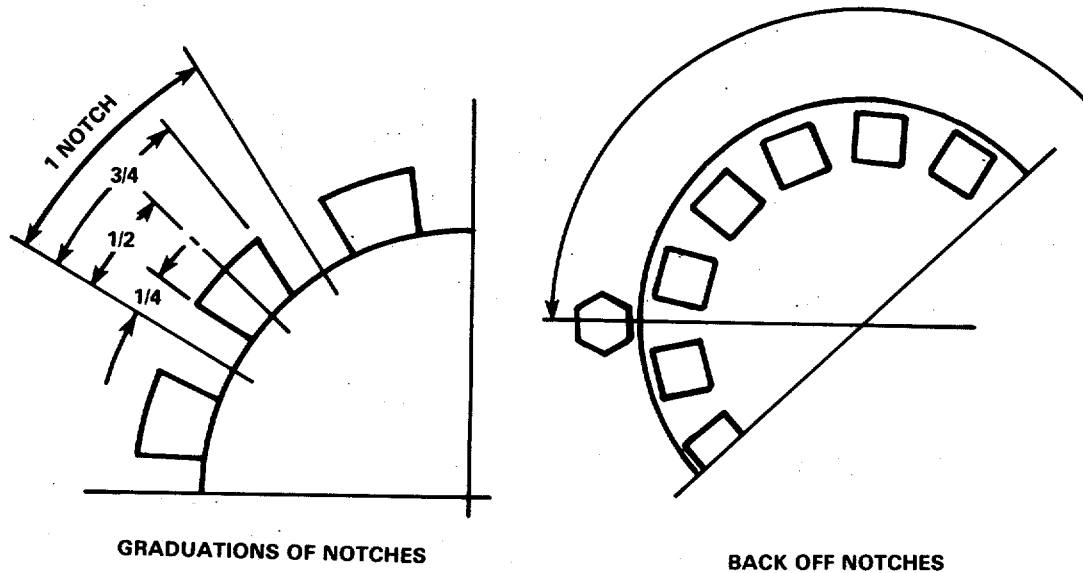

FIGURE 3-62. *Adjusting Retainer Nut.*
- (1) Tighten the retainer nut until the shaft requires 60 in-lb of force to turn.
- (2) Back off the retainer nut 3-1/4 - 4-1/4 notches. See FIGURE 3-62 .